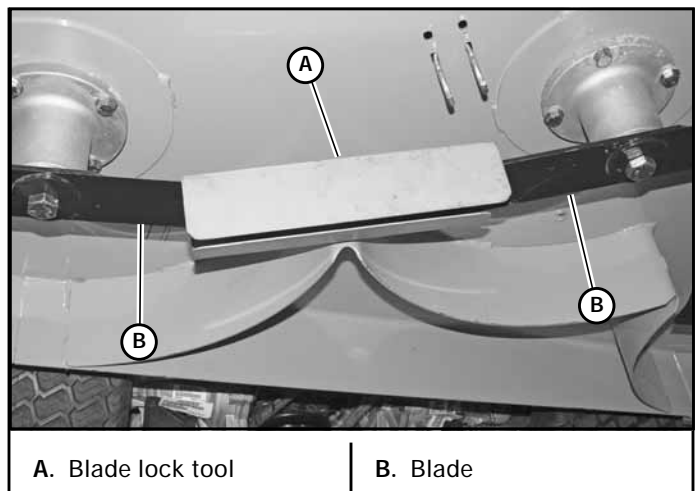

Figure 6-8
3. Install a blade lock tool (Excel part number 381442) over the two blades to prevent them from rotating. Figure 6-8